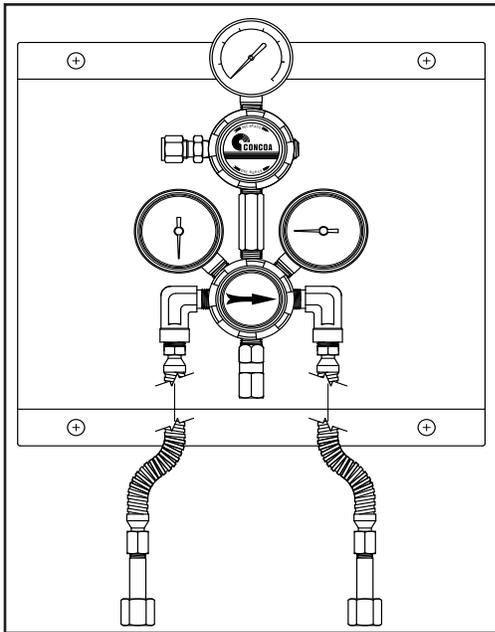
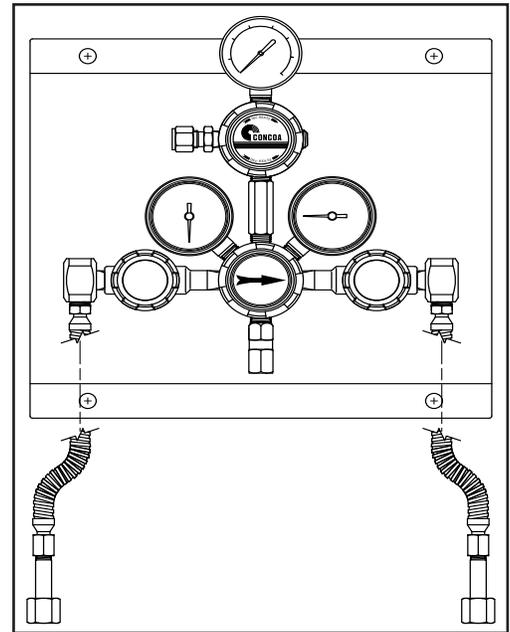

Figure 4
Figure 5
- Secure the street elbow as illustrated in Figure 4 or micro-tee in Figure 5 (included with diaphragm inlet option) with a wrench while threading the taped male NPT end of the pigtail.